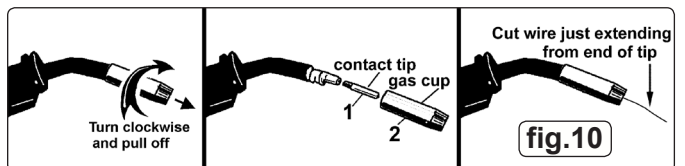

fig.10
- 6.4. **CONTACT TIP** The contact tip is a consumable item and must be replaced when the hole becomes enlarged or oval. The contact tip **MUST** be kept free from spatter to ensure an unimpeded flow of gas. Refer to fig.10 and section 3.10 for removal and replacement.
- 6.5. **GAS CUP** The gas cup must also be kept clean and free from spatter. Build up of spatter inside the gas cup can cause a short circuit at the contact tip which will result in either the fuse blowing on the printed circuit card, or expensive machine repairs. To keep the contact tip free from spatter, we recommend the use of Sealey anti-spatter spray (MIG/722308) available from your Sealey Dealer. Refer to fig.10 and section 3.10 for removal and replacement.